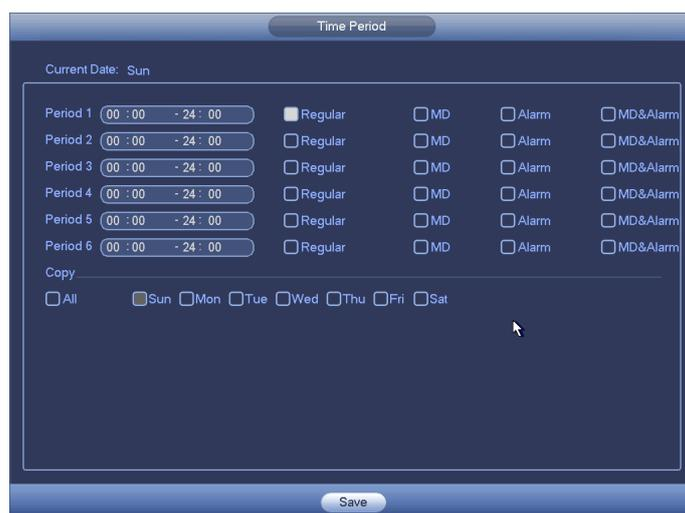

Figure 4-172
- Period setup: Click button  after one date or a holiday, you can see an interface shown as in Figure 4-172. There are four record types: regular, motion detection (MD), Alarm, MD & alarm.